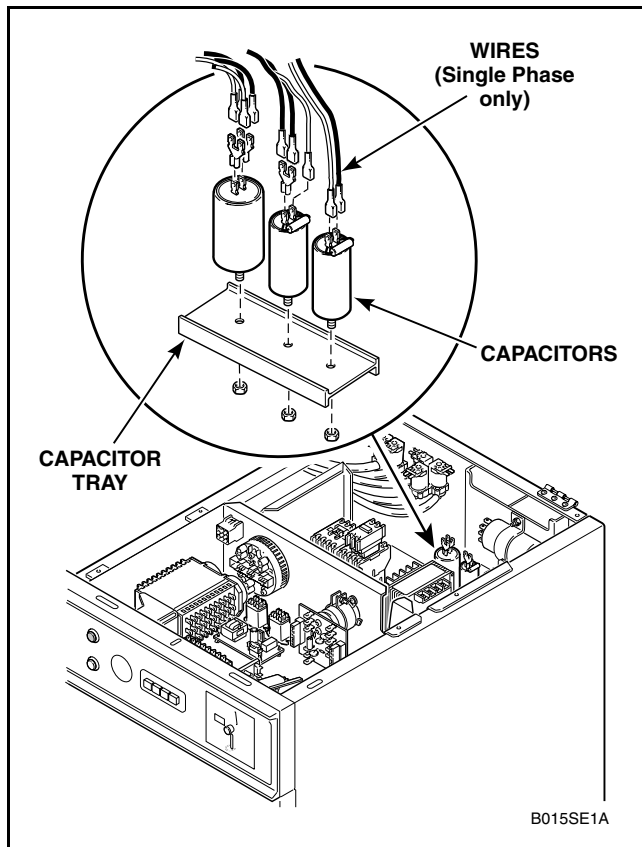

Figure 16
- Disconnect wires from capacitors, refer to *Figure 16*.